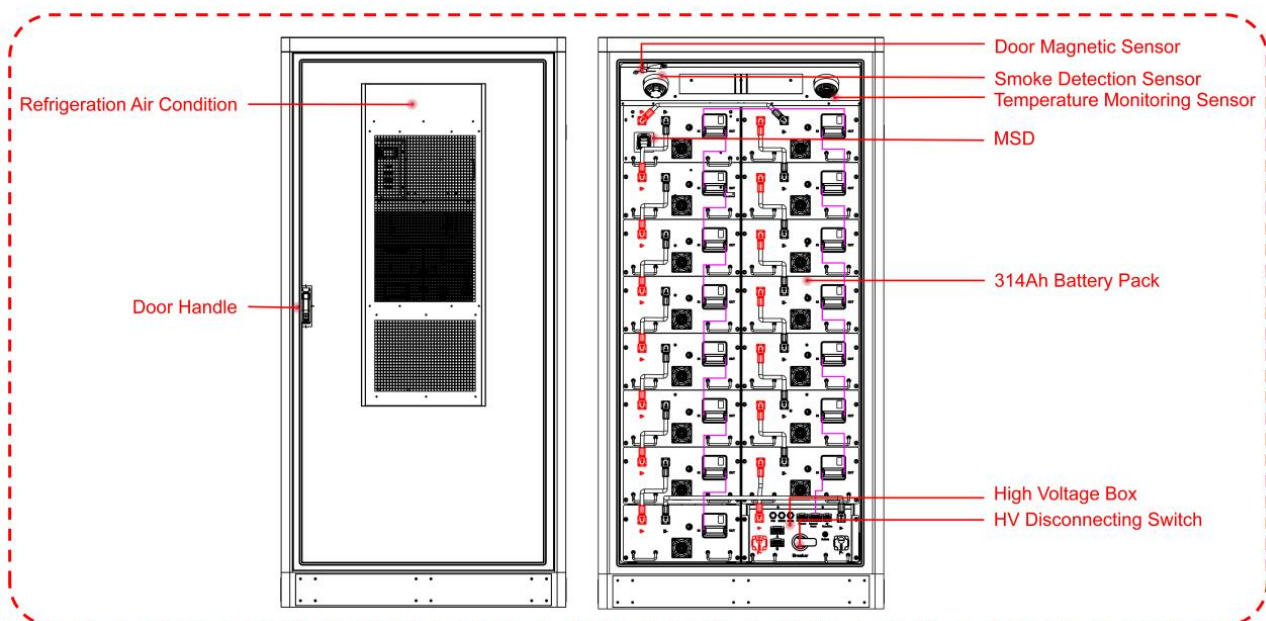

Figure 5.3
3. Refer to Figure 5.3, close the high-voltage box isolating switch (rotate to the ON position), and press the "Switch" start switch on the high-voltage box.